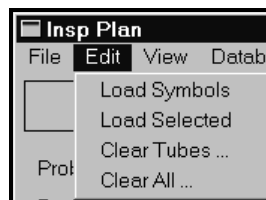

Figure 3-87. Plans > Edit Menu
As shown in Figure 3-87, the Edit menu contains four (4) choices. They are Load Symbols, Load Selected, Clear Tubes... and Clear All....